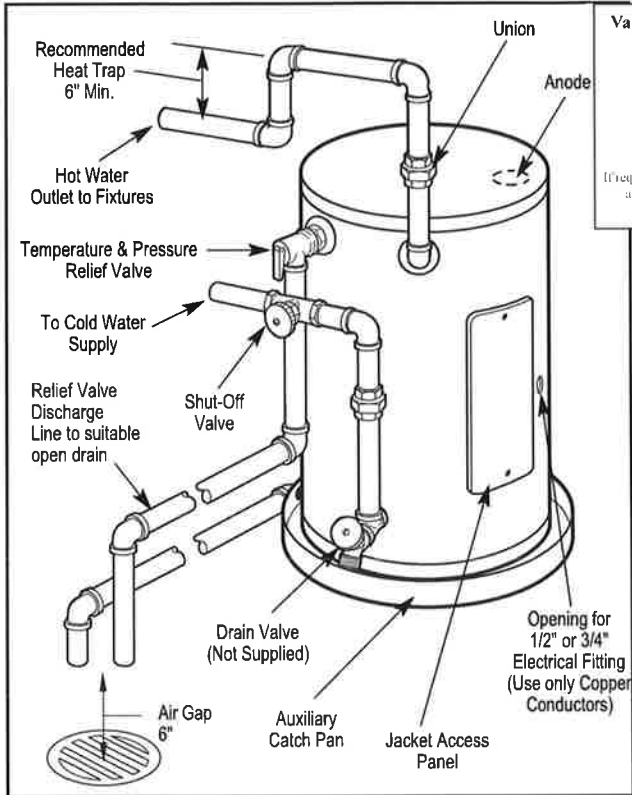
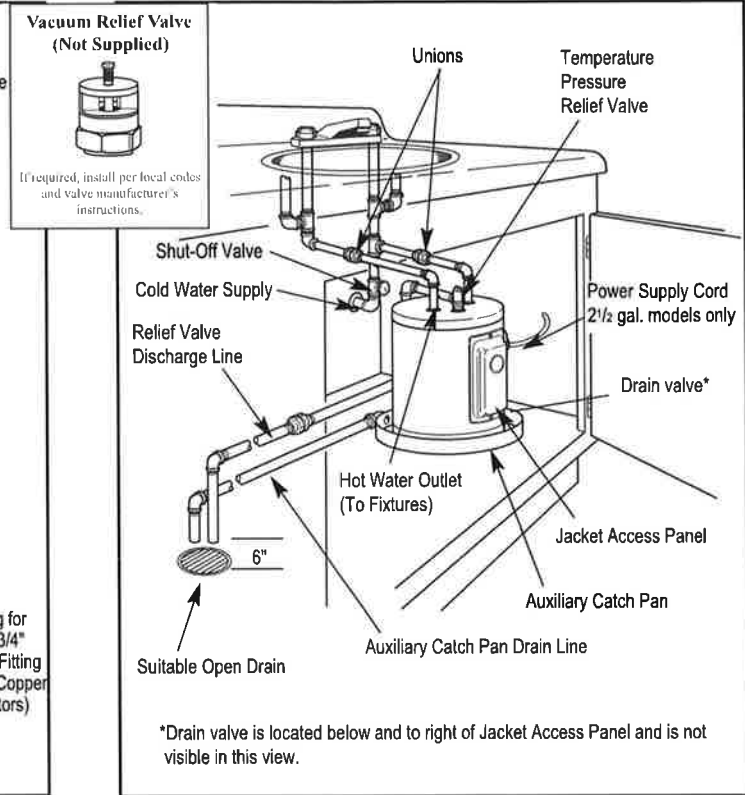

Figure 2. — Typical Side Connect Installation
Figure 3. — Typical Under Counter Top Connect Installation
- 3. WATER SUPPLY CONNECTIONS** — Refer to Fig. 2 or 3 for suggested typical installation. The installation of unions or flexible copper connectors on the water connections is recommended so that the water heater may be easily disconnected for servicing if necessary. Connect cold water supply line to 3/4" pipe connection near the bottom of water heater. (Refer to Figure 2.) Install a shut-off valve and a drain valve (not supplied) in the cold water line near the water heater (Refer to Fig. 2.). Connect hot water line to 3/4" pipe connection marked HOT on the side near the top of the water heater. On the some models, the hot and cold water connections are 1/2" pipe connections and are located on top of the heater. (Refer to Figure 3.) A drain valve is supplied on these models. Local codes may require an Anti-Siphon device on the water inlet of a side connect water heater.
4. **RELIEF VALVE** — A new combination pressure and temperature relief valve, complying with the Standard for Relief Valves and Automatic Gas Shutoff Devices for Hot Water Supply Systems, ANSI Z21.22, must be installed in the opening provided and marked for the purpose on the water heater. (Refer to Fig. 2 or 3.) No valve of any type should be installed between the relief valve and the tank. Local codes shall govern the installation of relief valves.